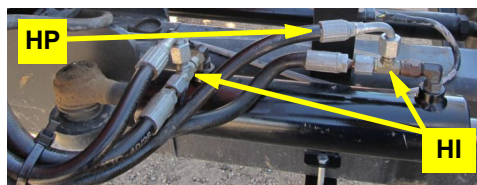

Figure 7a: Steering lines connected to run-tees, steering hoses reconnected, hoses routed towards the steering block
- a. Connect steering hoses **HP** to the open stems of the run-tees **HI** (Figure 7a, top image). Route the hoses inside the axle channel to the center of the machine then rearward toward the hydraulic steering block (Figure 7a, bottom image).